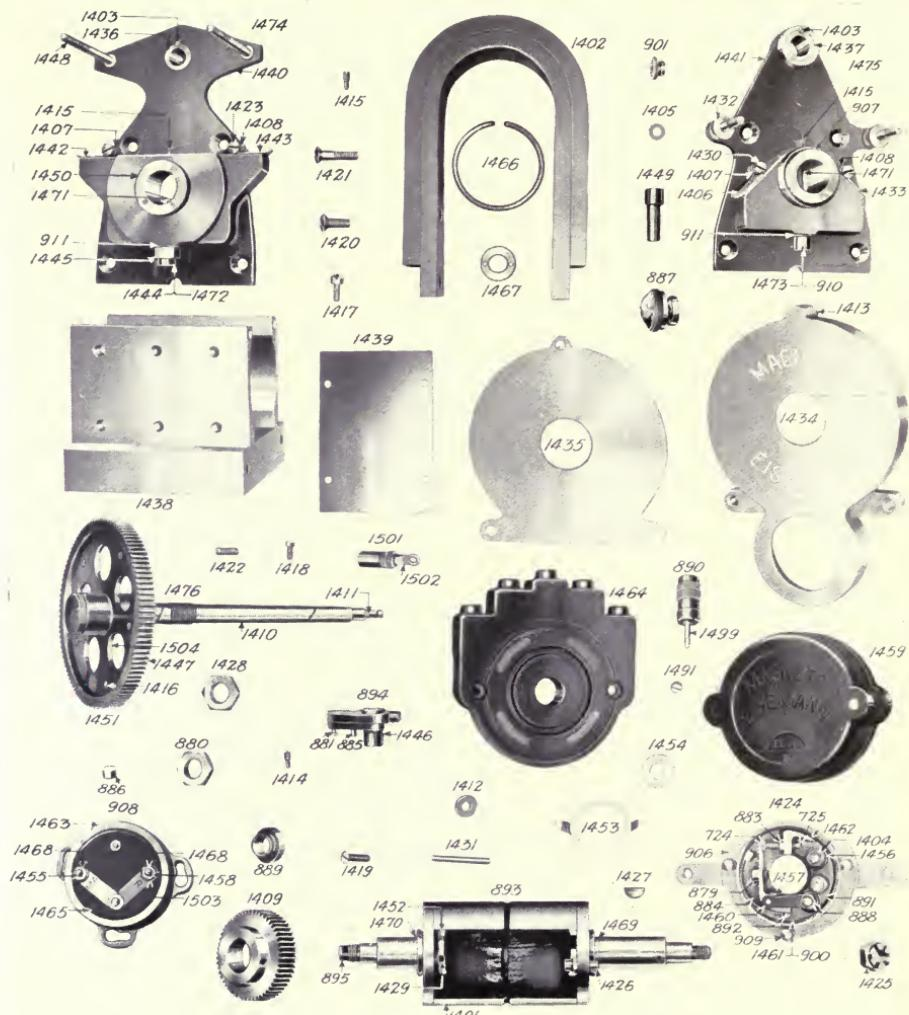

Fig. 49.
**49c. Eisemann magneto.** (See Fig. 49; for Eisemann transformer coil and switch see Par. 49e.)